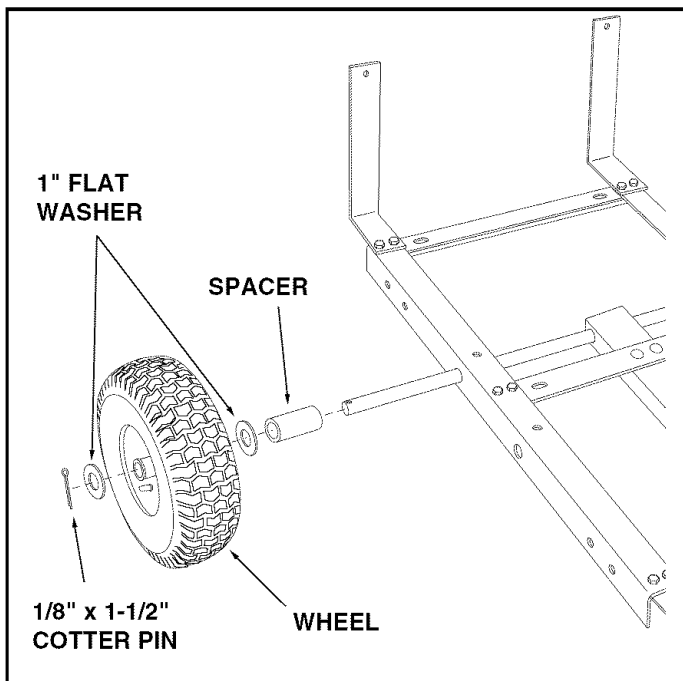

FIGURE 5
- Assemble a wheel spacer, a 1" flat washer, a wheel (valve stem facing out) and another 1" flat washer onto the axle as shown in figure 5. Place a 1/8" x 1-1/2" cotter pin through the hole at the end of the axle, spreading the ends of the pin to secure it. Repeat on other end of axle.